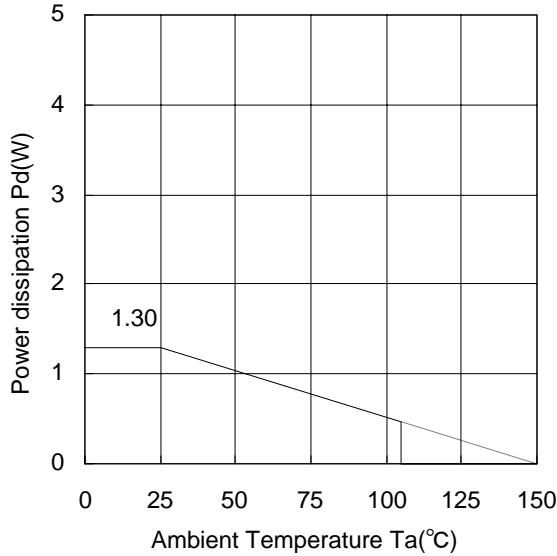
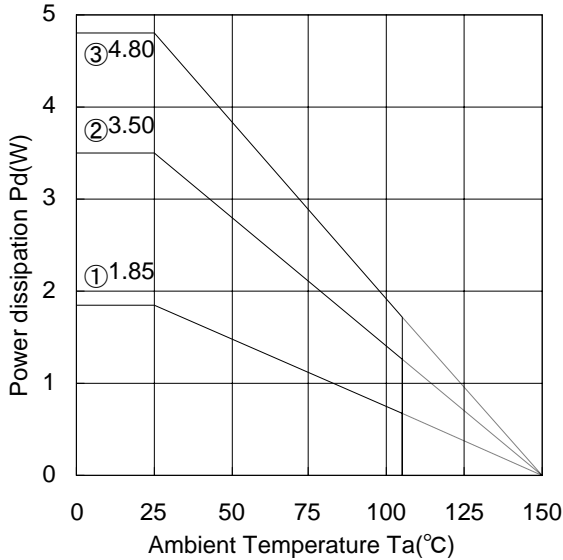
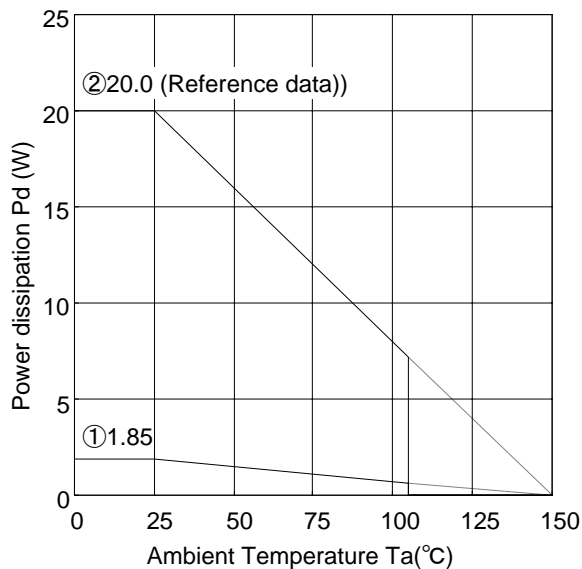

Figure 19.
Figure 20.
Figure 21.
When operating at temperature more than $T_a=25^\circ\text{C}$, please refer to the power dissipation characteristic curve shown in Figure 19 to Figure 21.
Figure 19 to Figure 21 show the acceptable power dissipation characteristic curves of TO252-5 package and TO220CP-V5 package. Even when the ambient temperature (T_a) is at normal temperature (25°C), the chip junction temperature (T_j) may be quite high so please operate the IC at temperatures less than the acceptable power dissipation.
The calculation method for power consumption $P_c(W)$ is as follows : (Figure 20③ and Figure 21)
$$I_O \leq \frac{2.496 - 10 \times I_b}{5} \quad \left[\begin{array}{l} \text{Figure 20③: } \theta_{ja}=26.0^\circ\text{C/W} \rightarrow -38.4\text{mW}/^\circ\text{C} \\ 25^\circ\text{C}=4.80\text{W} \rightarrow 85^\circ\text{C}=2.496\text{W} \end{array} \right]$$
$$I_O \leq \frac{10.4 - 25 \times I_b}{20} \quad \left[\begin{array}{l} \text{Figure 21 (Aluminium heat dissipation board) } \theta_{ja}=6.3^\circ\text{C/W} \rightarrow -160\text{mW}/^\circ\text{C} \\ 25^\circ\text{C}=20\text{W} \rightarrow 85^\circ\text{C}=10.4\text{W} \end{array} \right]$$